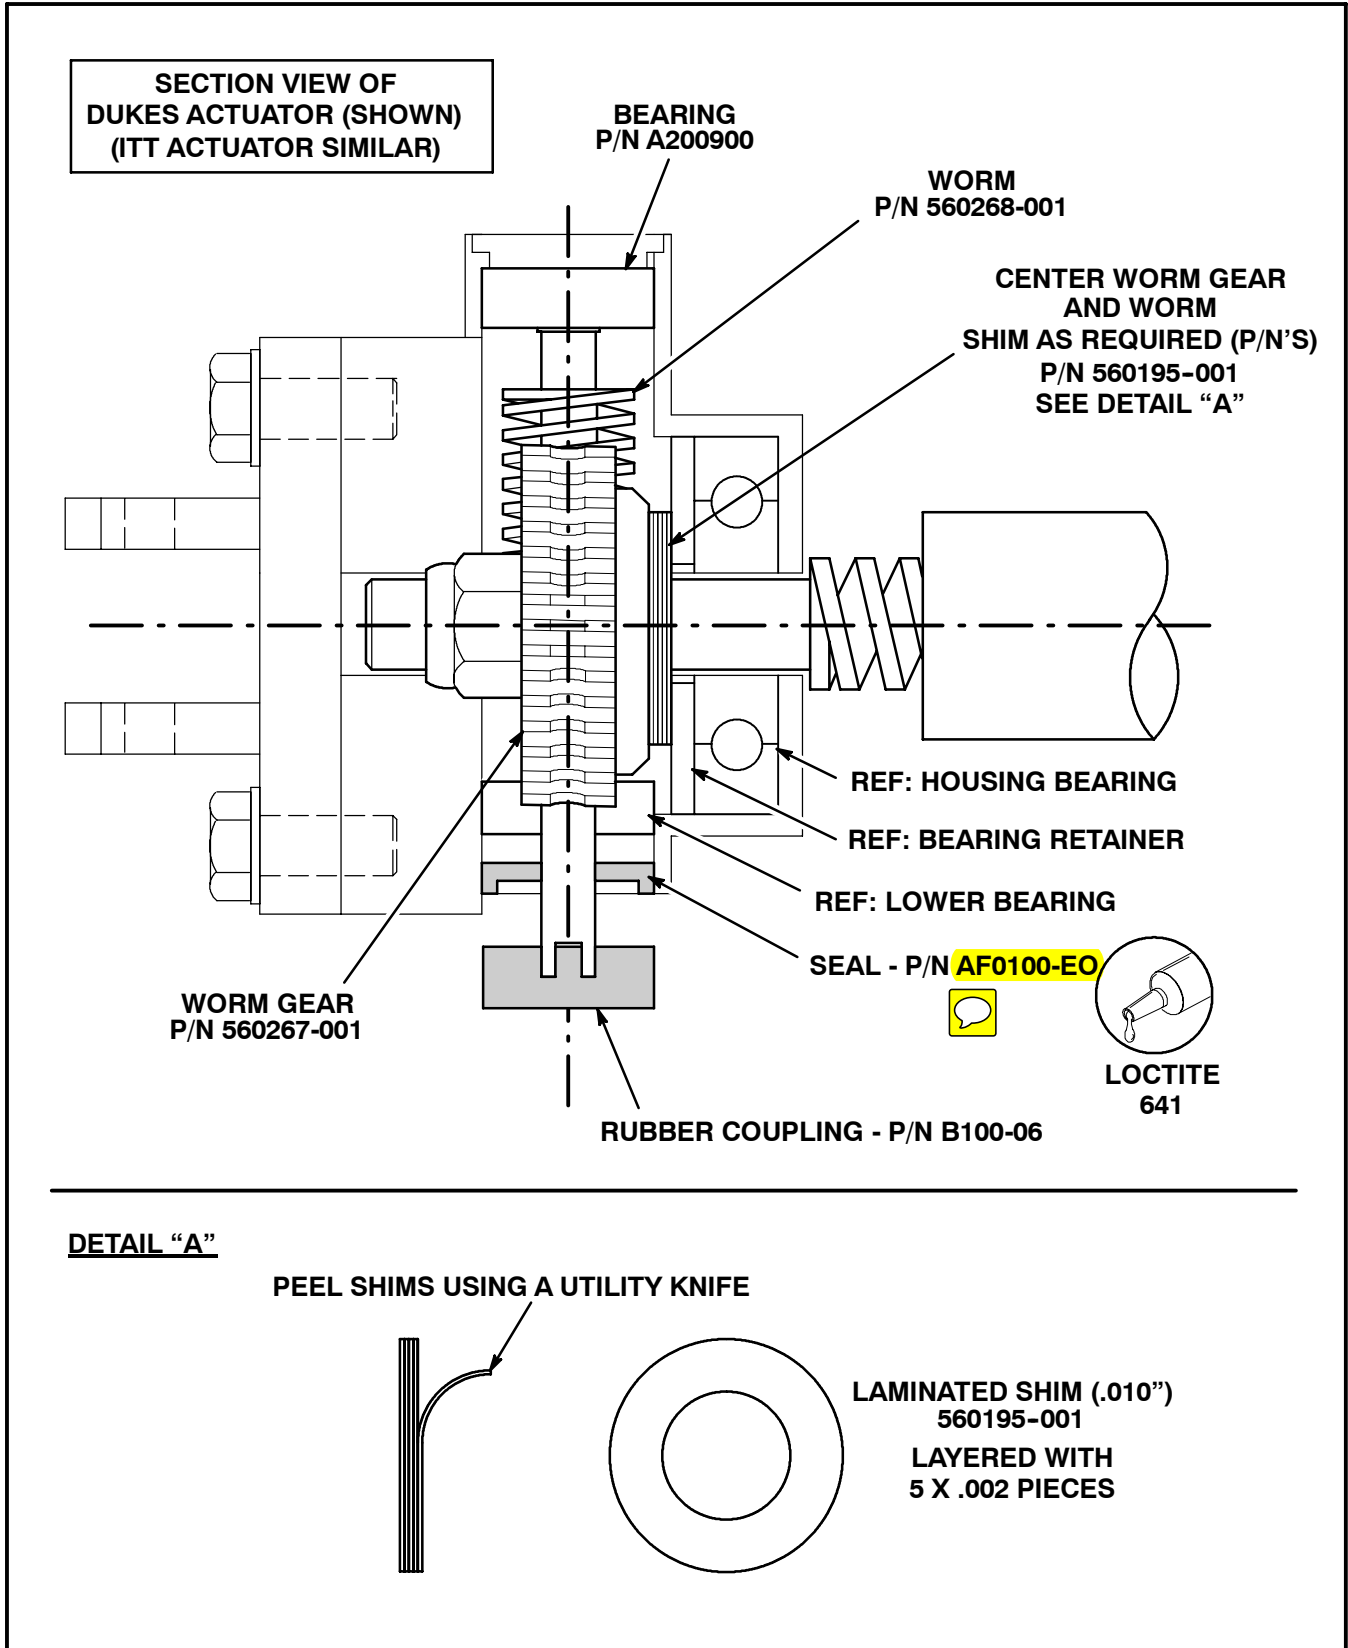

FIGURE 3 - DUKES ACTUATOR - SECTION VIEW (4196-00-1C - SHOWN)
15. Check worm gear so it engages with center of worm without binding or catching. Use laminated shim washer(s) 560195-001 provided in kit to properly align worm gear. These shims are made laminated to a .010” total thickness (made from 5 pieces of .002” material) and can be separated by using a utility knife to achieve proper thickness for alignment. (see Figure 3)